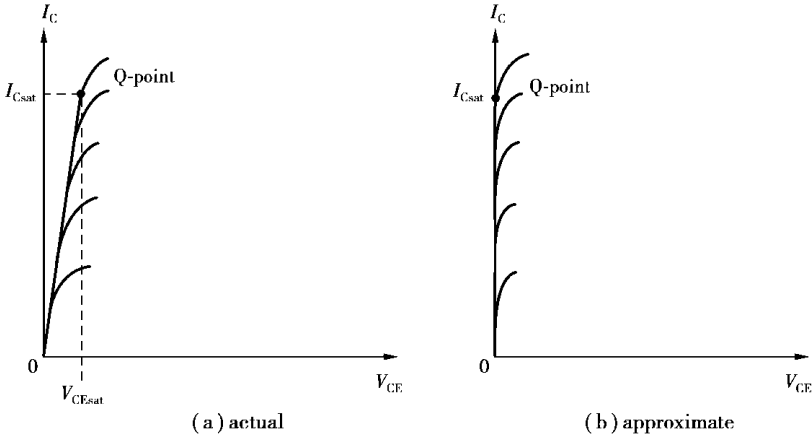

Figure 1.2 Saturation region
Saturation conditions are normally avoided because the base-collector junction is no longer reverse-biased and the output-amplified signal will be distorted. An operating point in the saturation region is depicted in Fig. 1.2(a). Note that it is a region where the characteristic curves join and the collector-to-emitter voltage is at or below V_{CEsat} . In addition, the collector current is relatively high on the characteristics.
If we approximate the curves of Fig. 1.2(a) by those appearing in Fig. 1.2(b), a quick direct method for determining the saturation level becomes apparent. In Fig. 1.2(b) the current is relatively high and the voltage V_{CE} is assumed to be zero volts. Applying Ohm's law the resistance between collector and emitter terminals can be determined as follows:
4. *If we approximate the curves of Fig. 1.2(a) by those appearing in Fig. 1.2(b), a quick direct method for determining the saturation level becomes apparent.*
如果我们将图 1.2(a) 用图 1.2(b) 来近似, 那么显然就有了一种快速确定饱和程度的方法。